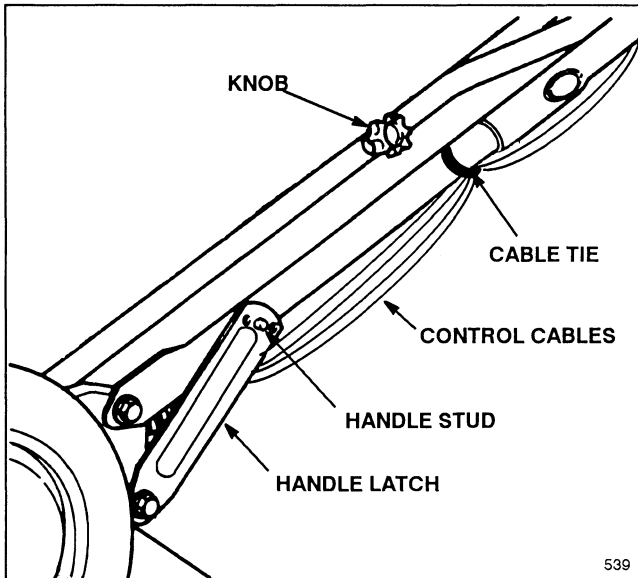

Figure 1
2. Align handle and tighten handle knobs (Fig. 1). Move handle latches slightly outward so they will not be in the way when pivoting the handle backward into the operating position (Fig. 1).
3. Pivot handle backward. Move handle latches inward while snapping handle stud into center hole of handle latch (Fig. 1). If a handle latch does not fit tightly against the handle tube, remove latch from handle stud, bend the latch inward, and reattach to
Note: If handle height is not satisfactory, adjust by placing handle stud (Fig. 1) into a different hole.
4. Ensure control cables (Fig. 1) are to the rear and inside of handles. Secure cables to handle with cable ties. Tighten handle knobs securely.